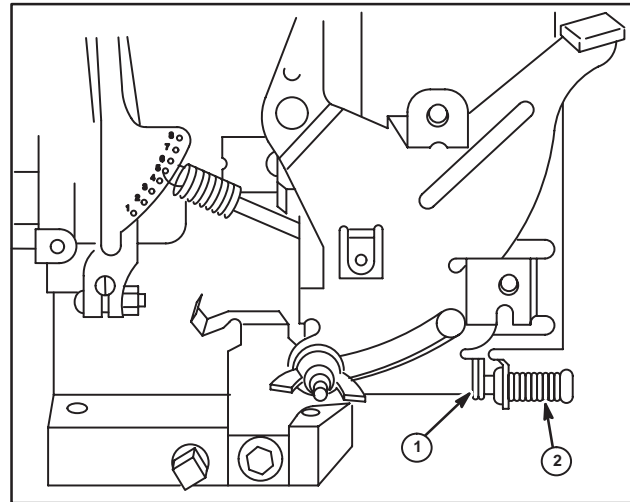

Fig. 22
3. If tab on lever (1) is touching head of TOP NO LOAD RPM adjusting screw (2), back out screw until tab no longer touches screw when control lever is in maximum RPM position, Fig. 22.